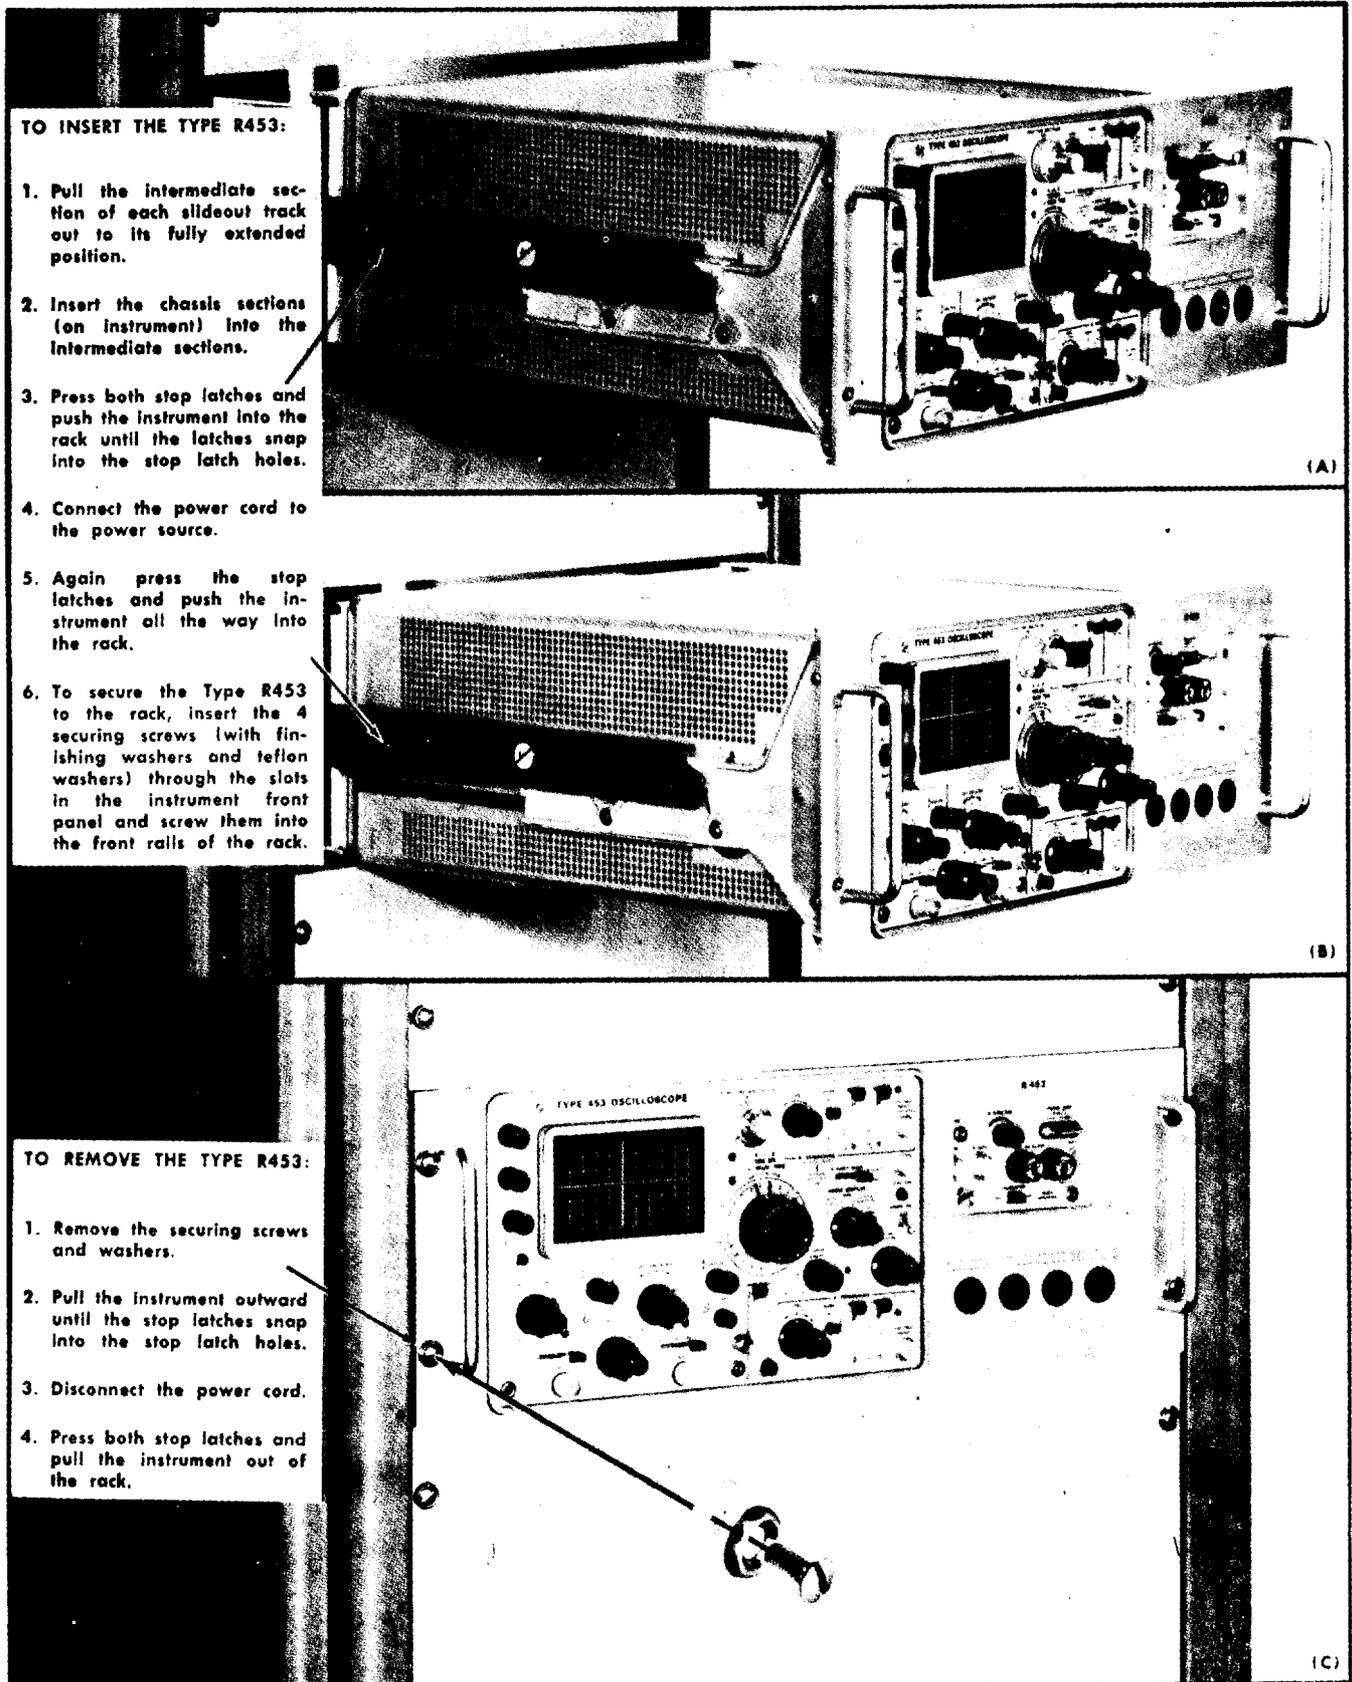

Fig. 10-9. Procedure for inserting or removing the instrument after the slideout tracks have been installed.
6. Refer to Fig. 10-9 to insert the instrument into the rack. Do not connect the power cord or install the securing screws until all adjustments have been made.
After initial installation and adjustment of the slide-out tracks, the Type R453 can be removed or installed by following the instructions given in Fig. 10-9. No further adjustments are required under normal conditions.